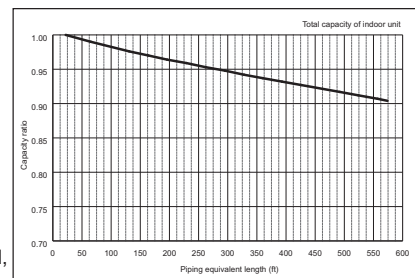

Figure 6 Correction of refrigerant piping length
- Piping Length Correction (328 ft) **0.94 (Refer to Figure 6)**